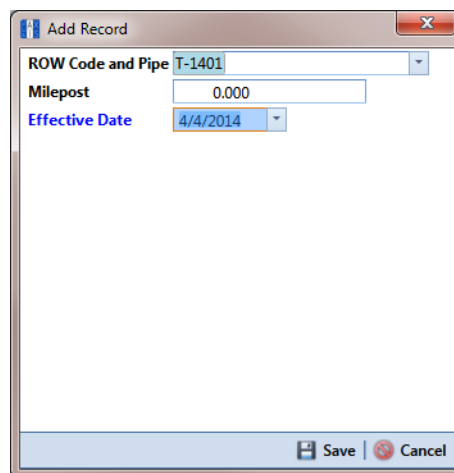

Figure 7-7. Add Record
- b Click  **Save** to display required field(s) for data entry (Figure 7-7).